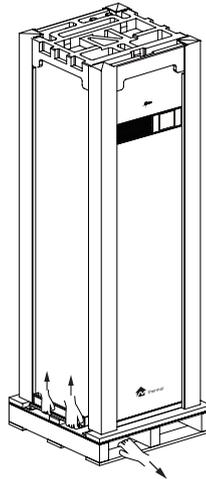

Fig.5-4
- Four people hold the sheet metal lifting machine,one of them pull the wooden base(Refer to Fig.5-4).